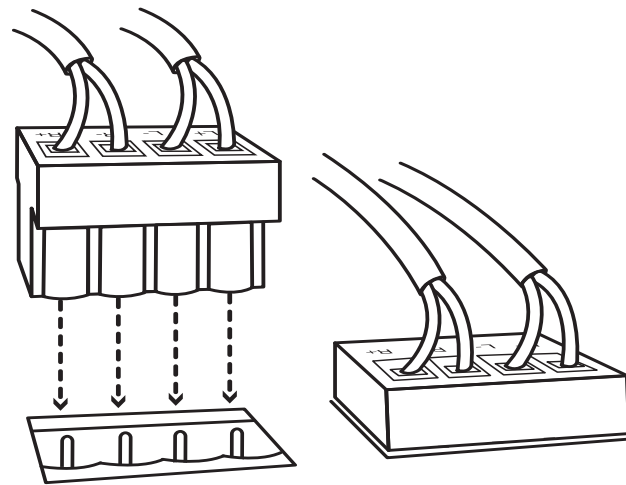

Fig. 3
5. Install the connector plugs back on the NX-VCH8 as shown in Fig. 3.